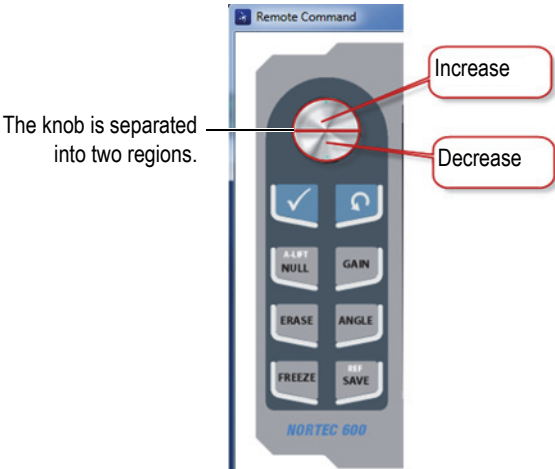

Figure 6-20 The knob functions in remote control operation
- ◆ In remote control mode, click the top half of the knob to increase setting values and click the bottom half of the knob to decrease setting values (see Figure 6-20 on page 325).